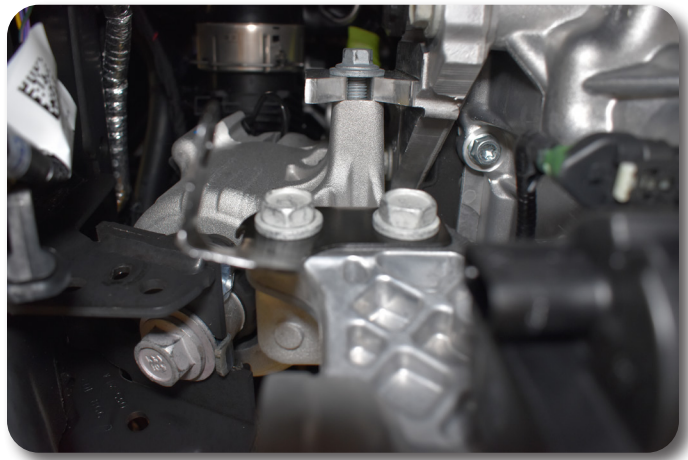

Figure 23
44. Remove two front differential bolts (passenger side) using an 18mm socket. It may be necessary to loosen with an impact then complete removal with a ratchet. Fig. 23 Securely support the differential and lower from the vehicle.